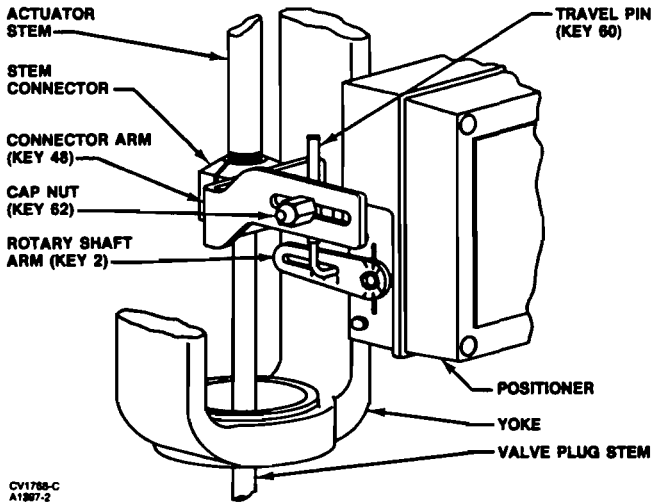

Figure 4. Isometric View Showing Motion Feedback Arrangement and Typical Stem Connection
2. Normal position is shown in figure 4.
7. Slip the round end of the travel pin (key 60) into the rotary shaft arm (key 2) slot as shown in figure 4.
8. Slide the square end of the travel pin into the pin holder and pin lock (keys 61 and 59). Place the pin lock and holder into the slot in the connector arm (key 48). Screw the cap nut (key 62) onto the pin lock (key 59), but do not tighten.
10. Position the travel pin so that it is perpendicular to the connector arm and aligns with the correct actuator stem travel index on the rotary shaft arm. Tighten the cap nut (key 62 in figure 4).